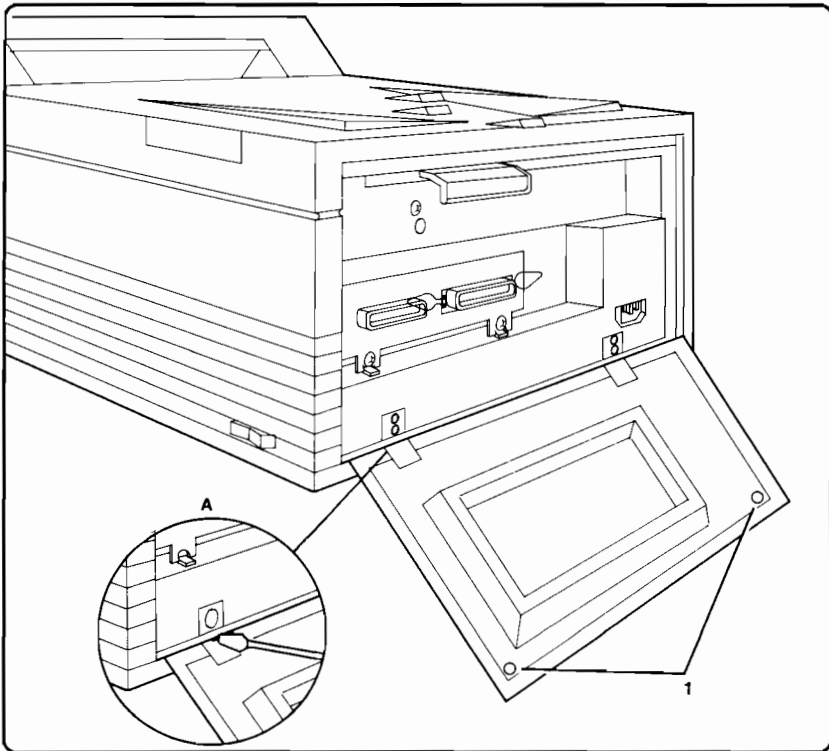

Figure 6-15. Rear Cover Removal
1. Open the Rear Cover by loosening the captive screws (2) securing the cover (see Figure 6-15, callout 1).
2. Use a small flat-head screwdriver to depress each Rear Cover Hinge and pull the Rear Cover away from the printer (see Figure 6-15, detail A).
1. Loosen the screws (2) and open the Rear Cover (see Figure 6-15).
1. Remove all covers (see Figures 6-15, 6-16, 6-17, 6-21, 6-22).
1. Remove all covers (see Figures 6-15, 6-16, 6-21, 6-22).